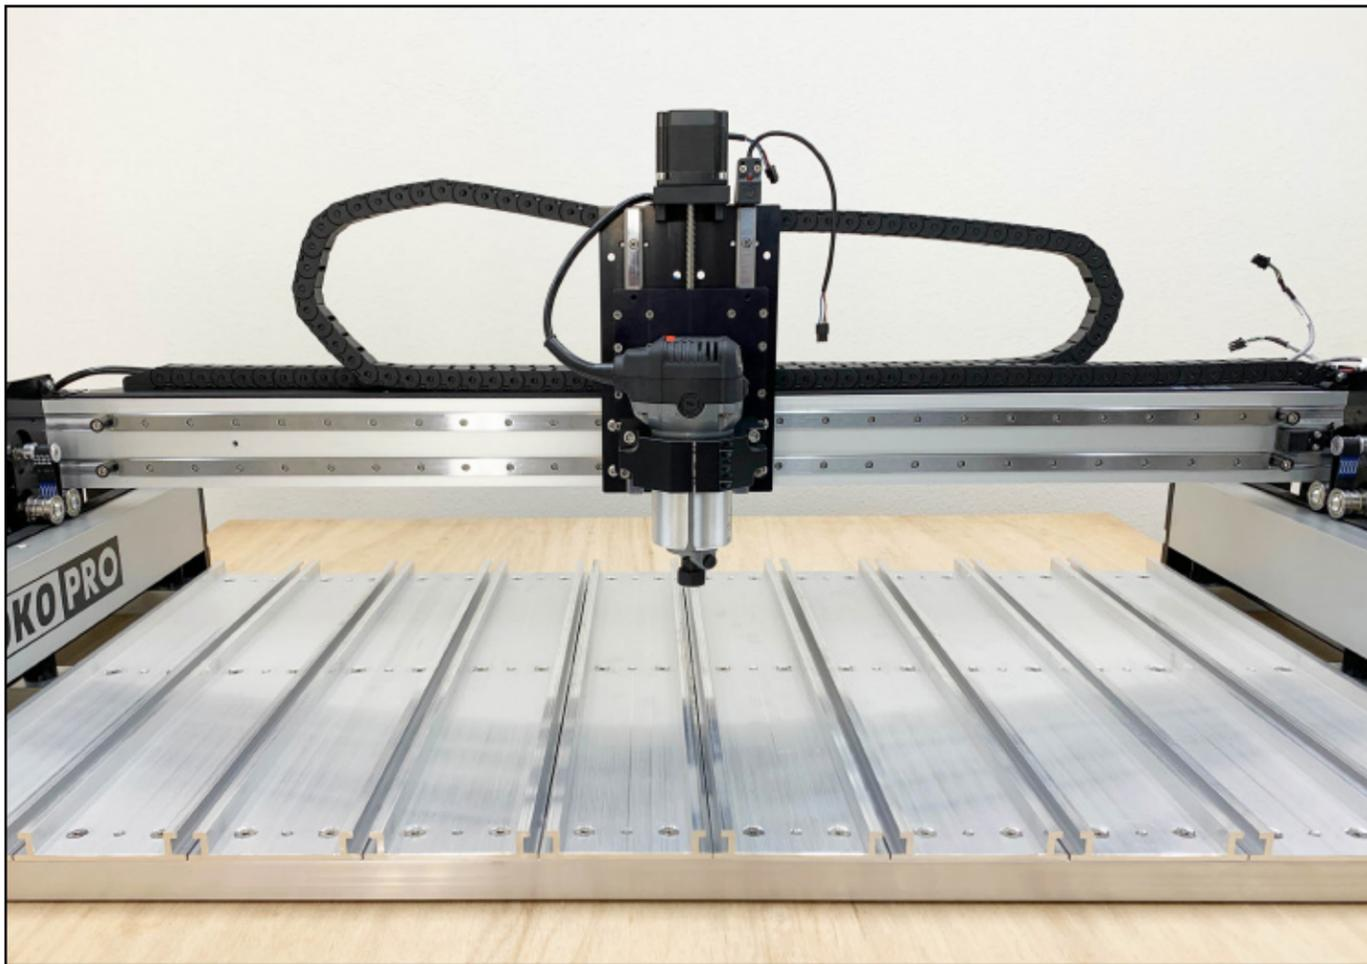

Figure 8-2
1. Position the ten (10) hybrid extrusions, from front to back. **See Fig. 8-2.**
2. Use a 4mm hex key and six (6) M6×10mm FHS to secure each hybrid extrusion to the baseframe.